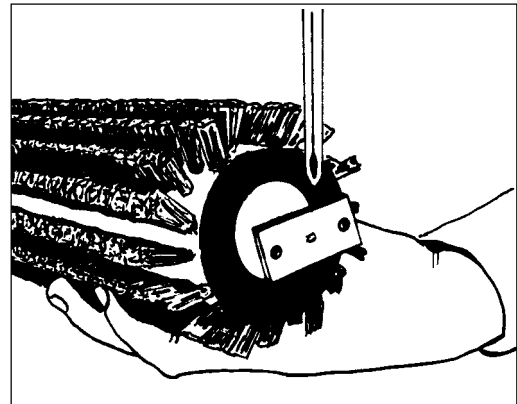

Figure 19
2. Make sure the shaft assembly is in position. See figure 19.